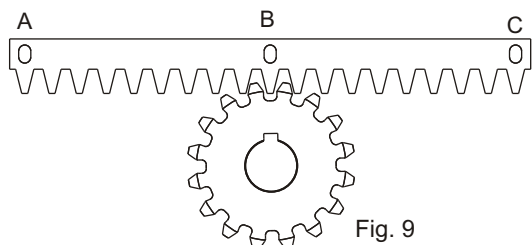
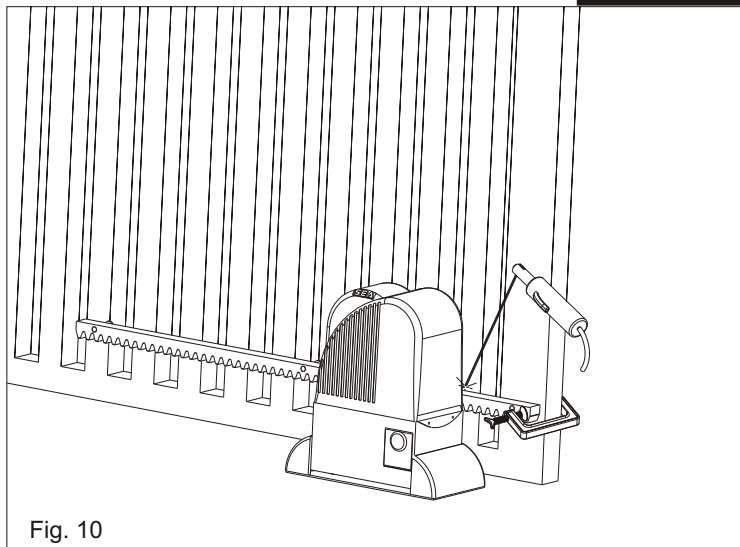

Fig. 9
Fig. 10
6.3. Lay the section of rack on the pinion of the operator as in Fig. 9 so that it results parallel to the pavement guide of the gate and tack weld the central bolt B to the gate (Fig. 10).